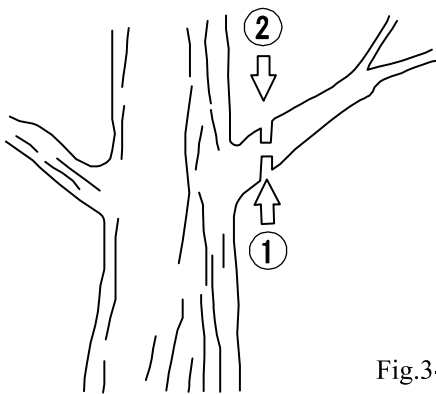

Fig.3-5
- To cut a thick branch exceeding 10 cm in diameter, do the following: (Fig.3-5)
1. Lightly press the upper side of the guide bar against the underside of the branch near the trunk. Make the undercut (1) to a depth of about 1/4 the diameter of the branch.
2. Make a backcut (2) from above the branch, at a location about 2 to 3 cm outside the undercut. Once the branch has fallen, cut off the remaining part near the trunk.